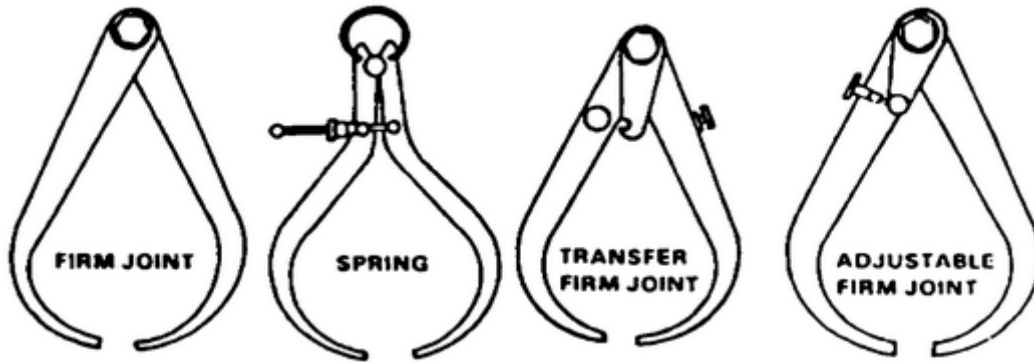

FIGURE 18. OUTSIDE CALIPERS
Outside calipers, Figure 18, are used to measure distances over and around adjacent outside surfaces. They are also used to transfer the measurements to a rule. Several types and sizes are made to accommodate a wide range of measurements. The size of the caliper is expressed in terms of the maximum dimension it is capable of measuring. A 3-inch caliper, for example, will measure a distance of 3 inches. Actually, the maximum capacity of the caliper will be greater, often as much as one-third. This means, for example, that a 3-inch caliper will actually measure up to 4 inches. It is not recommended that you use a 3-inch caliper to measure 4 inches, since that could spring the legs resulting in an inaccurate measurement.
- a. Spring calipers, Figures 18 and 19, are available in sizes from 2 to 8 inches. The friction of the adjusting nut and screw works against the tension of the spring which holds the legs in any set position. This type of caliper is known as the toolmaker's spring caliper.